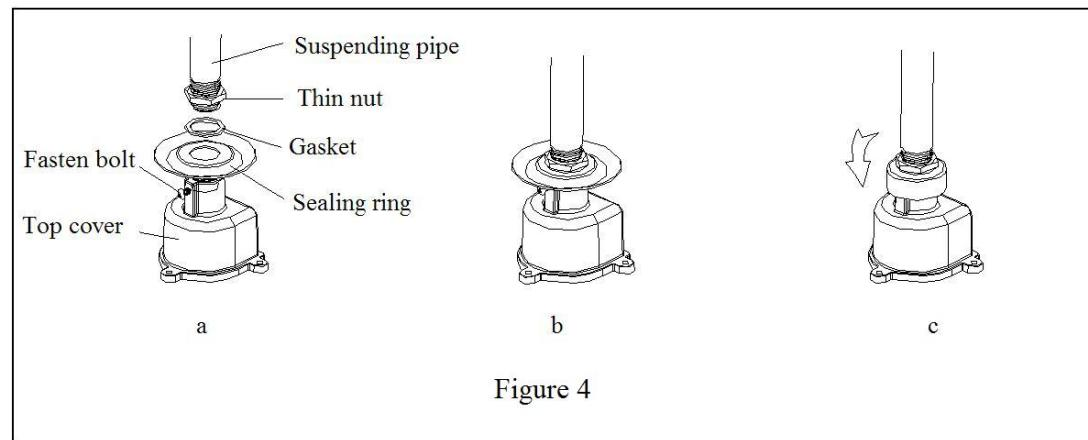

Figure 4
14. Model A is provided with water-resistant sealing ring assembly, see Figure 4 for correct installation, the procedures as followed:
- a) Rip the pipe into the tiny nut, gasket and sealing ring successively(see Figure 4 a);
- b) Screw the pipe into the top cover then screw down the tiny nut to compress the gasket and sealing ring tightly(see Figure 4 b);
- d) Locate the sealing ring as the arrow shows in Figure 4.